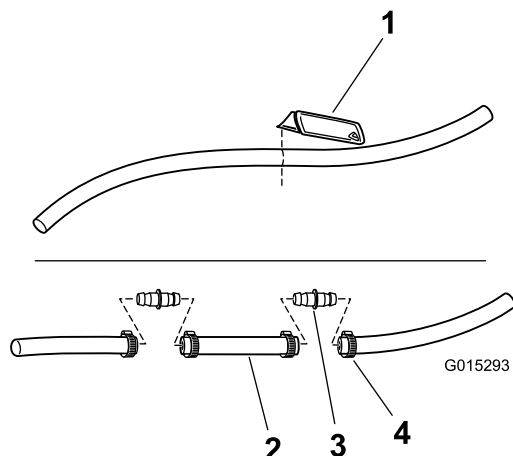

Figure 10
5. **Multi-Pro 1200 sprayer only:** Disconnect the boom supply hose from the pressure control valve tee, cut the boom supply hose 24 inches from the end of the fitting, and install the hose splice using 2 straight adapters and 4 hose clamps (Figure 10).